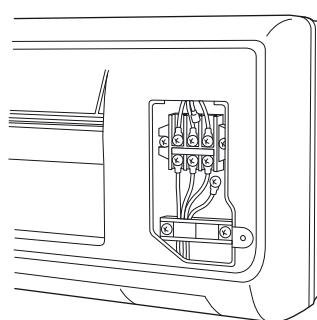

Fig. 26a
- (4) Route the inter-unit wiring from the back of the indoor unit and pull it towards the front for connection. (Fig. 26a or 26b)
- (5) Connect the inter unit wiring to the corresponding terminals on the terminal plate (Fig. 26a or 26b) while referring to the wiring diagram.
- (6) Be sure to secure the wiring with the provided clamp.